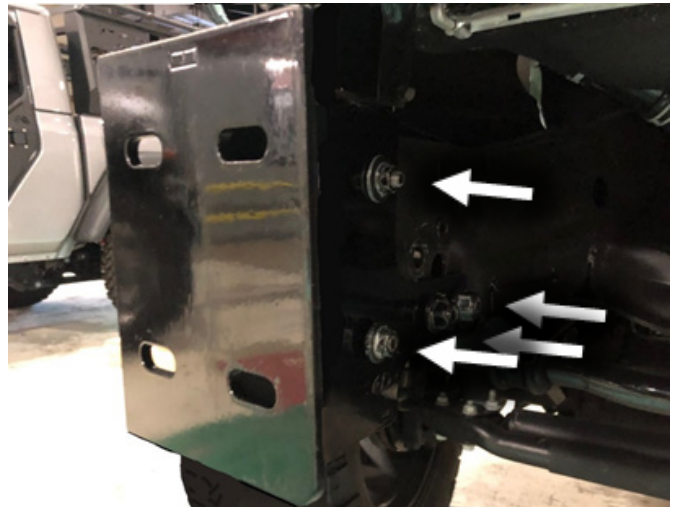

Figure 18
17. Use the OEM hardware removed during steps 7 and 9 to install the mounting brackets (22255-22256). Figure 18.